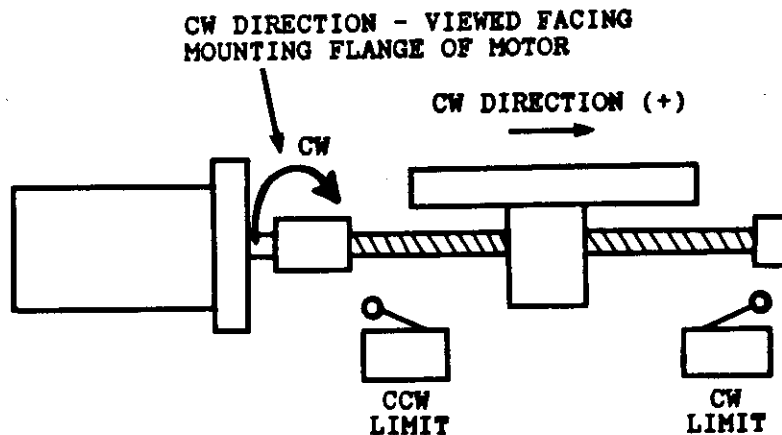

FIGURE 4-1: LIMIT SWITCH DIRECTION
The terms Clockwise (CW) and Counterclockwise (CCW) refer to motor rotation when viewed from the mounting flange of the motor. This has been adopted as an Aerotech standard to clarify the limits when one controller is interfaced to many different mechanical configurations. Therefore, the CW limit will stop CW rotation and the CCW limit will stop CCW rotation, as illustrated in figure 4-1.